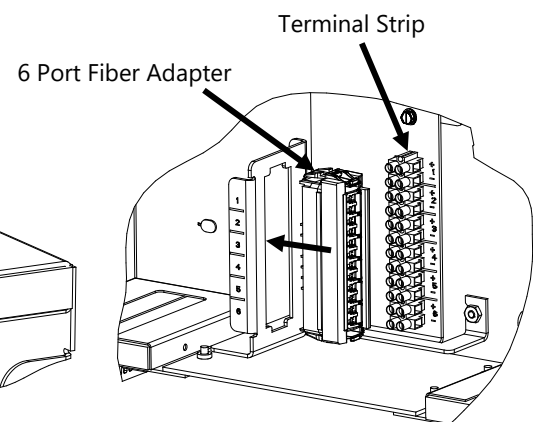

Figure 3
4. Insert the 6 port fiber adapter into the G2 opening with the shutters facing in the direction of the terminal strip, as shown in **Figure 3**.